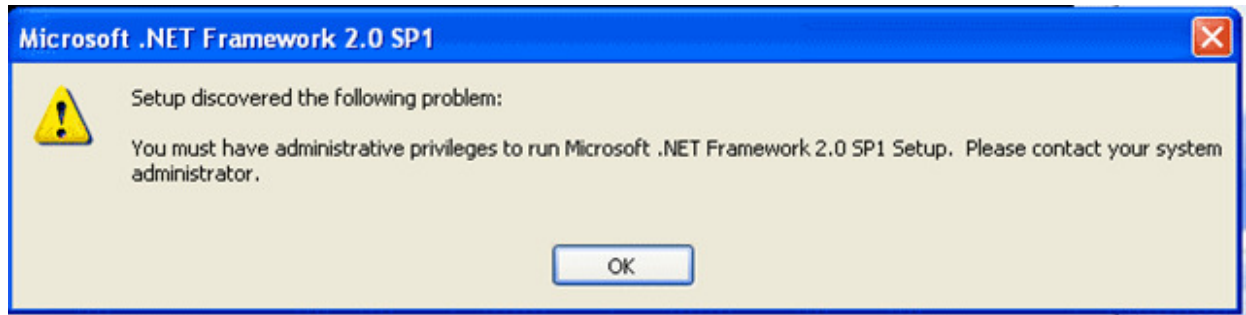

Figure 12-12. This screen snapshot shows the message indicating insufficient administrative privileges.
On some computers the installation may fail if the user does not have sufficient administrative privileges. Figure 12-12 shows the typical message displayed when the installation cannot proceed due to insufficient administrative privileges. Enlist your corporate information technology (IT) department to resolve any installation issues related to insufficient administrative privileges.